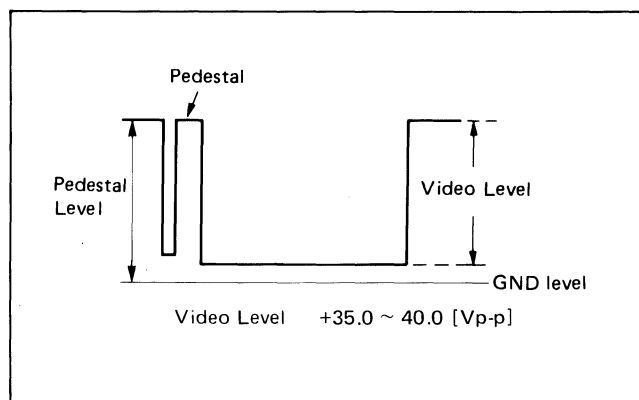

Fig. 2-1-2
- (2) A board RV404 (G-BKG) Min
- (3) Connect the oscilloscope probe to TP2 (KR) on the C board.
- (4) Vary RV401 on the A board and adjust the video level to 40 Vp-p. (See Fig. 2-1-2.)
- (5) Connect the oscilloscope probe to TP1 (GIR) on the C board.